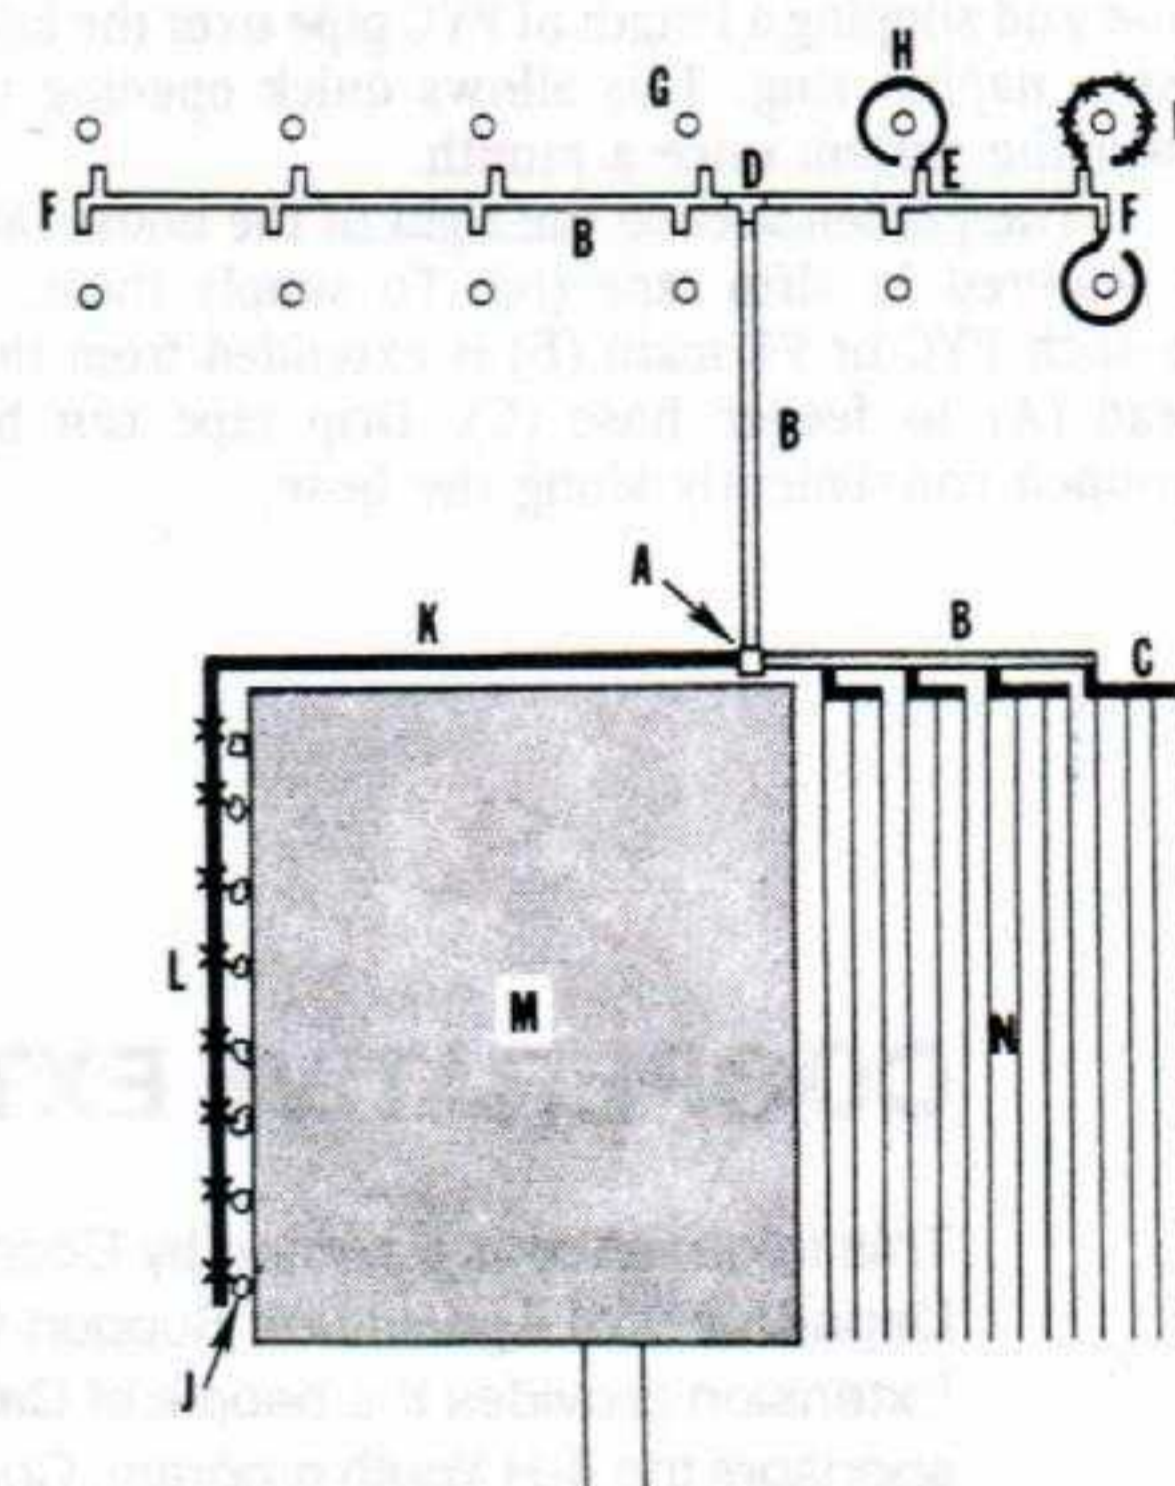
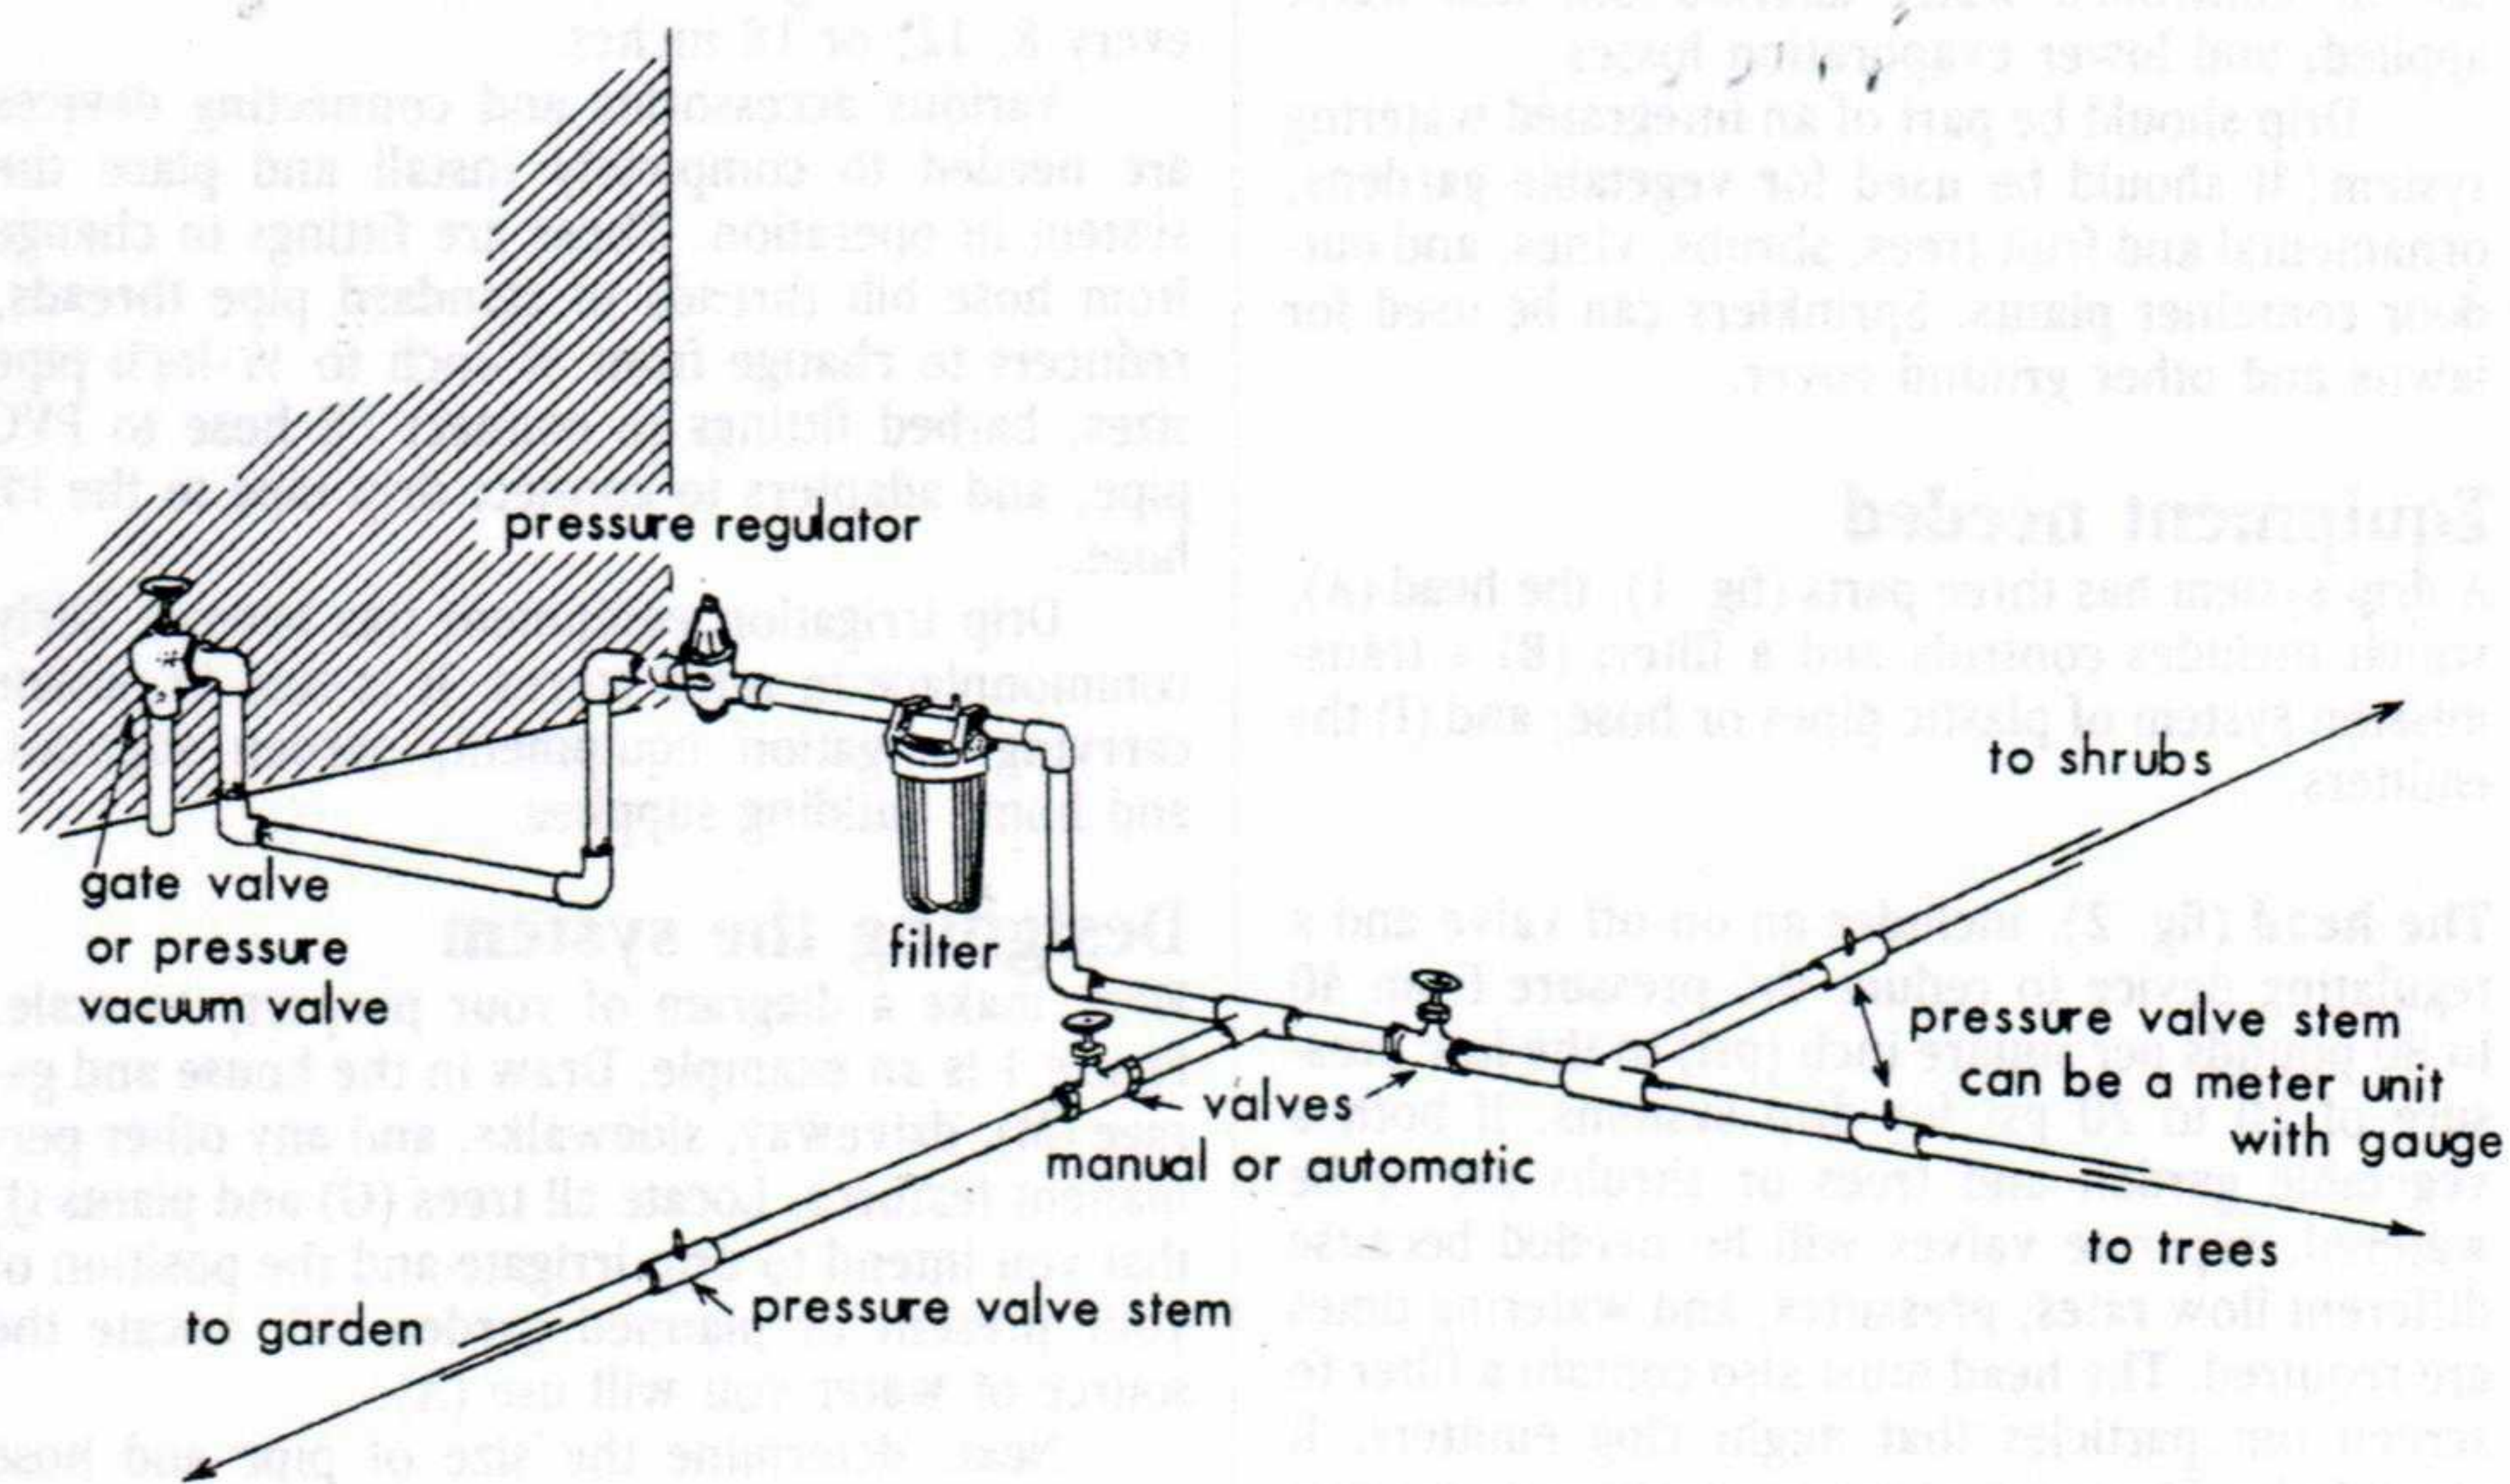

Figure 1. Example layout of a home drip system.
Figure 2. "Head" or control center details.
A drip system has three parts (fig. 1), the head (A), which includes controls and a filter; (B) a transmission system of plastic pipes or hose; and (I) the emitters.
The head (fig. 2), includes an on-off valve and a regulating device to reduce the pressure from 40 to 80 pounds per square inch (psi) to the low pressure of 10 to 20 psi for drip systems. If both a vegetable garden and trees or shrubs are to be watered, separate valves will be needed because different flow rates, pressures, and watering times are required. The head must also contain a filter to screen out particles that might clog emitters. It should also have one or more pressure-measuring devices to help in adjusting the pressure regulator.
First, make a diagram of your property to scale. Figure 1 is an example. Draw in the house and garage (M), driveway, sidewalks, and any other permanent features. Locate all trees (G) and plants (J) that you intend to drip irrigate and the position of your present or planned garden (N). Locate the source of water you will use (A).
IDENTIFICATION OF COMPONENTS IN FIGURE 1
In figure 1, there are 12 trees (G) with six 1 gallon per hour (1 gph) emitters per tree at 15 psi. The flow needed at D is 1.2 gpm because 12 trees \times 6 gph \div 60 min/hr = 1.2 gpm. The table shows that a 1/2-inch main line (B) will be sufficient.
Techniques for installing the relatively simple system in figure 1 are described in this leaflet. Professional help is recommended for more complicated situations. Check your local city codes for requirements for anti-backflow devices and their locations.
The lot in figure 1 is 90 by 120 feet, with a 40 by 50 feet house (M). It has 12 fruit trees (G) in back, 8 shrubs (J) on the left side of the house, and a 30 by 50 feet garden space on the right (N). Details of the head (A) are shown in figure 2. The main line (B) will be 1/2-inch PVC, buried about 8 inches. PVC tees (E) and elbows (F) have internal barbs and provide places to connect the PE feeder hose (H) on which individual emitters (I) are placed. Feeder hoses of 1/2-inch PE (H, K, and C) are laid on the ground or buried 2 or 3 inches. These hoses are closed at the ends by folding back 4 inches of hose and slipping a length of PVC pipe over the fold like a napkin ring. This allows quick opening to flush the system once a month.